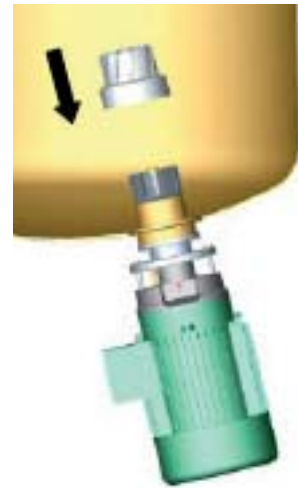

fig 5.6.2.1
3. Position the High Shear Rotor very carefully and place it properly aligned onto the High Shear Tank Plate. Do not drop the Rotor onto the Stator. The Stator surfaces are very brittle and can be easily destroyed, fig 5.6.2.1